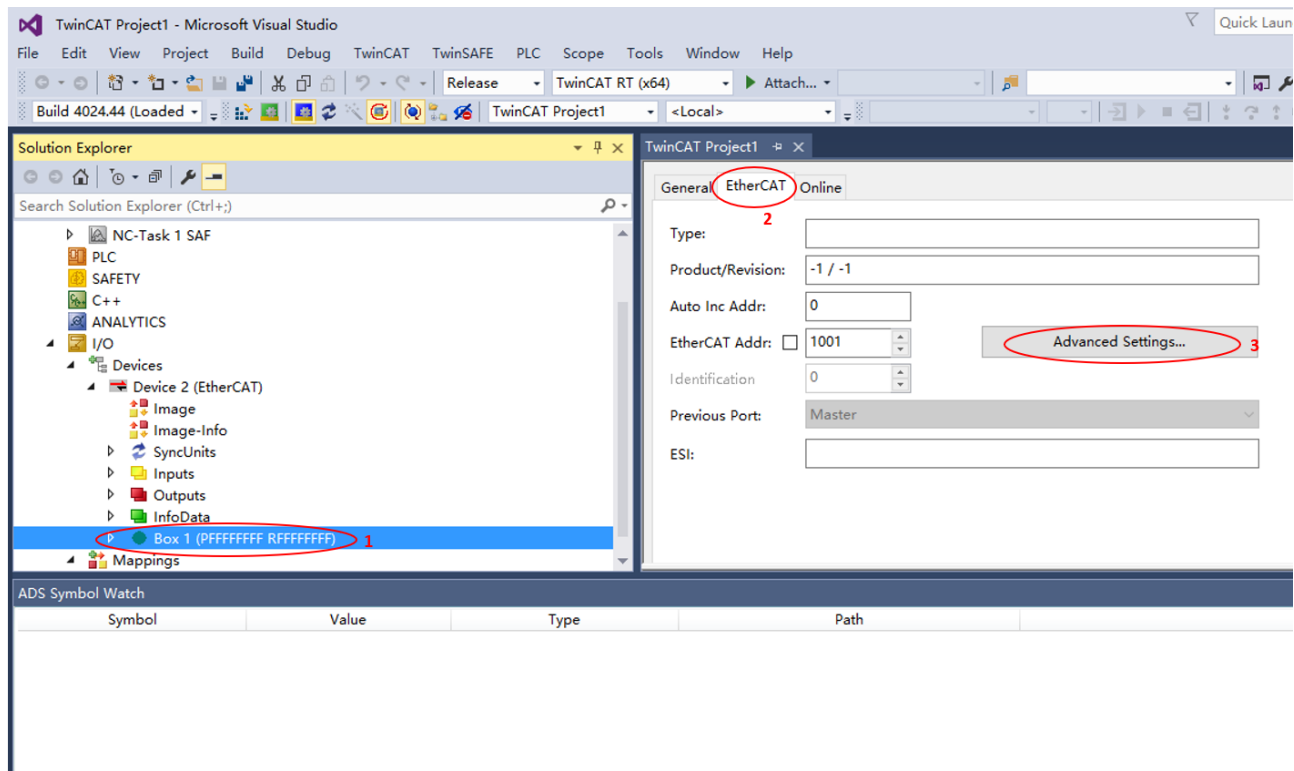

Figure 3-13 Updating the EEPROM
To update the EEPROM, double-click on Box 1 (1), select the “EtherCAT” tab (2) and click the “Advanced settings” button (3) as illustrated in Figure 3-13.
Now repeat the device scan shown in Figure 3-13. TwinCAT®3 will now scan once more for devices and it will find the Renesas EtherCAT RA8T2 CiA402 2port Solution board with the updated description data in EEPROM. The subsequent “Check Configuration” dialog shows you the list of found items. Copy the “Renesa EtherCAT RA8T2 CiA402 2port” device with “Copy All” into the list of “Configured Items” (1). When the representation of the devices in the list changes to green, leave the dialog with “OK” (2).